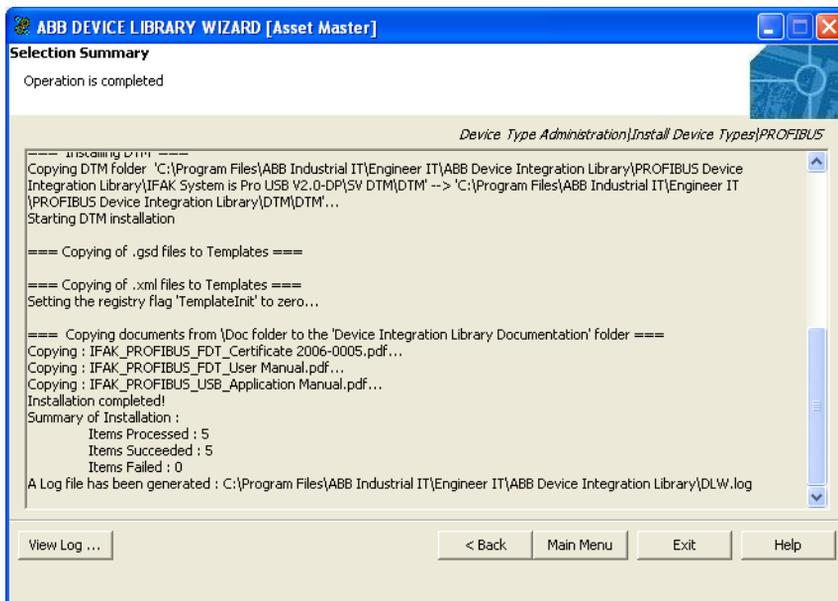

Figure 108. Restore Process Selection Summary
16. Once the DTM installation is complete, a screen similar to the one shown in Figure 108 is displayed, with a summary report of the restore process. Errors if any, during the restore process, are displayed in the report.